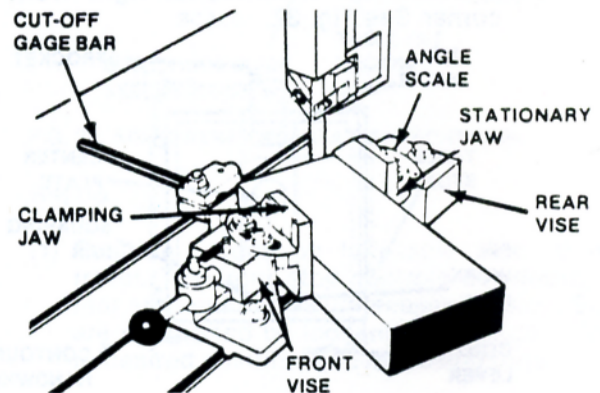

FIG. 37. UNIVERSAL VISE JAWS CLAMPED IN TABLE T-SLOT.
- (1) The Universal Vise is used for accurate production cut-off work. The cut-off angle can be adjusted between 0-45° by using a protractor and pointer.
- (2) Set up by clamping vise jaws in right table T-slot and the cut-off gage into left T-slot. See Fig. 37.